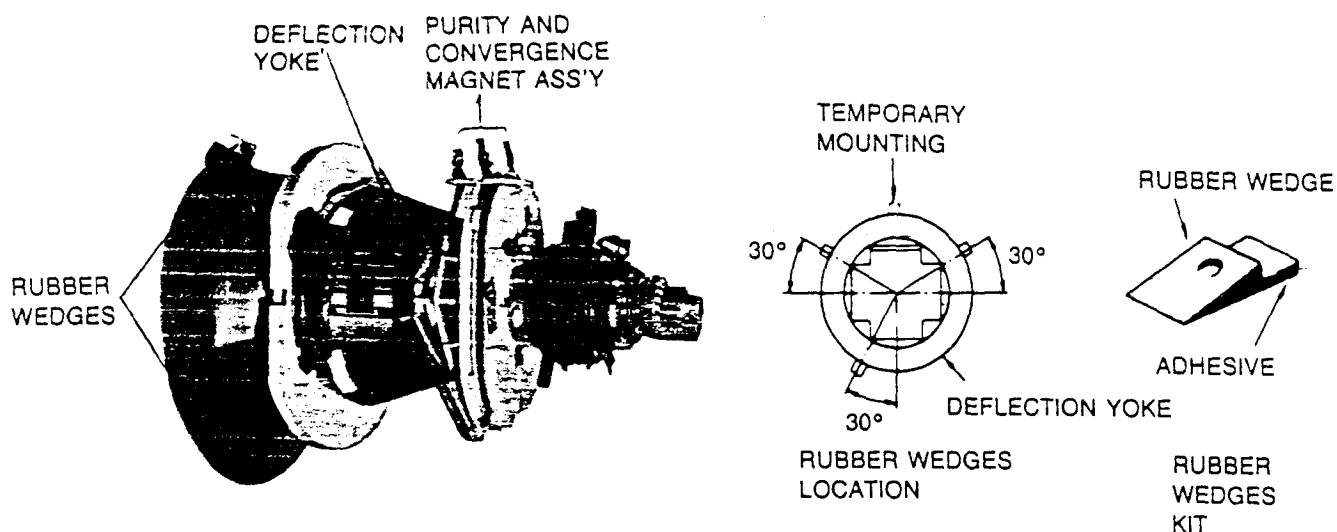

Figure 14
CAUTION: Convergence and Purity have been factory aligned. Do not attempt to tamper with these alignments. However, the effects of adjacent receiver components, or replacement of picture tube or deflection yoke may require the need to readjust purity and convergence. Convergence magnet assembly and rubber wedges need mechanical positioning following the figure 14. Before attempting any convergence adjustments this receiver should be operated for at least fifteen minutes. IF adjustment is required the adjustments should be made in the following sequence.
2. Adjust DY to obtain a better convergence in the circumference by orbital movement of the front of the yoke, then secure the DY in appropriate position by placing the wedges as illustrates in Figure 14. Tighten screw holding the DY. Stick 3 adhesive tapes on wedges as shown in Figure. 14.